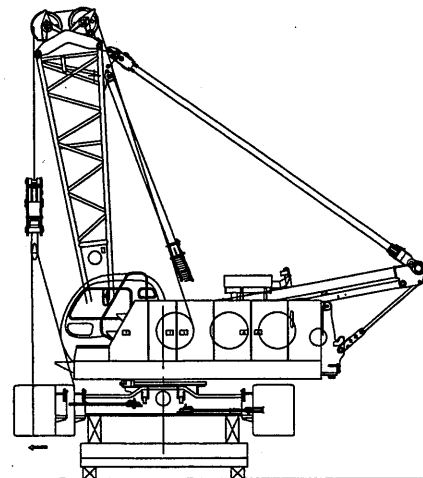

Fig. 11-20
- (6) Extend the crawler with the horizontal cylinder. (Fig. 11-20)